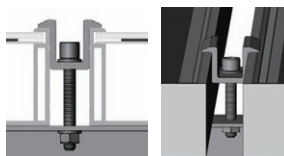

Figure2. SPV module installed with clamp fitting method²
(2) Clamp fitting: Using suitable module clamps on the side of the module frame to mount the modules (including "portrait orientation" and "landscape orientation")
- Applied torque should be 8 Newton-meters. Please find detailed mounting information in Figure 2.